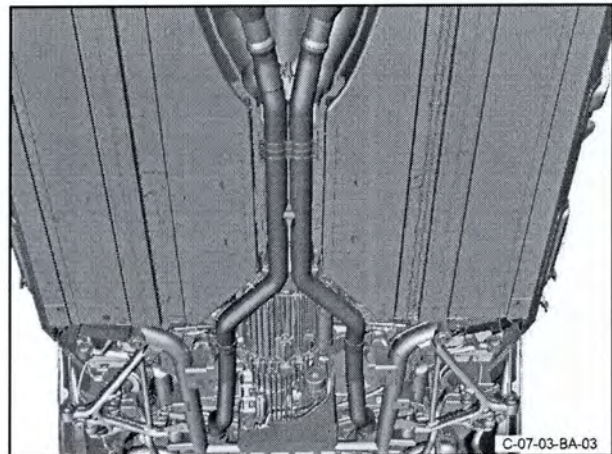

Figure 7
14. Remove the centre pipe and the rear exhaust pipes as an assembly (refer to Figure 7).